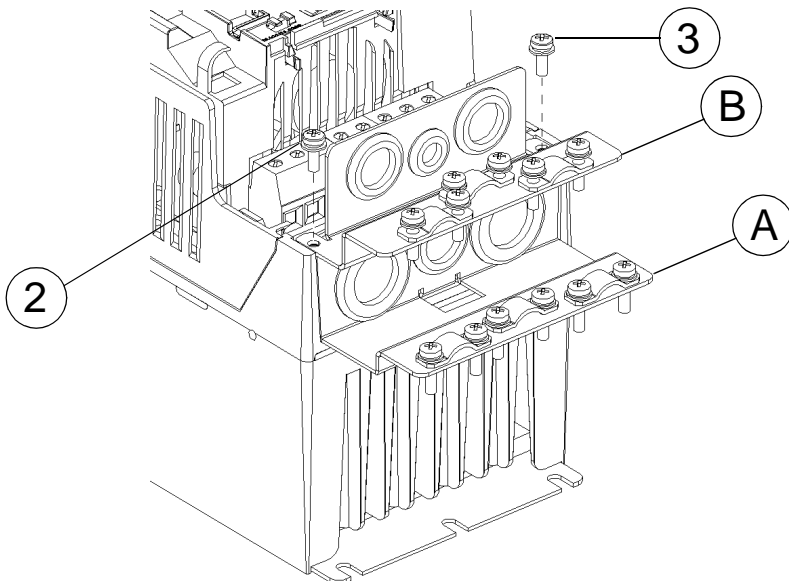

Figure 18 Installing the gland plate for control cables (B), type IP 21 / NEMA 1 drives.
The gland plate for control cables (B), is attached with two screws into threaded holes, marked b in Figure 18. This gland plate is located on top of the power cable gland plate, marked A.